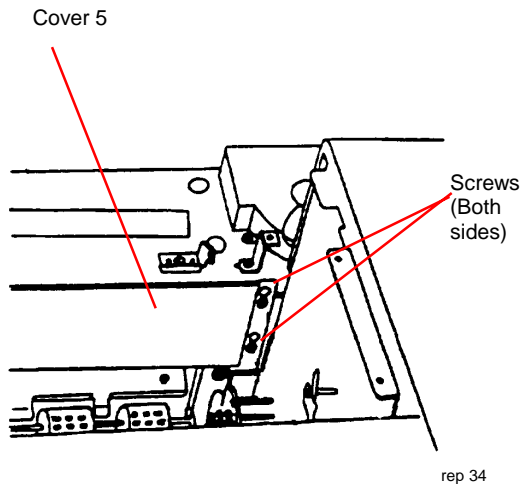

Figure 1. Removing Cover 5
2. (Figure 1): Loosen the four screws and remove Cover 5.